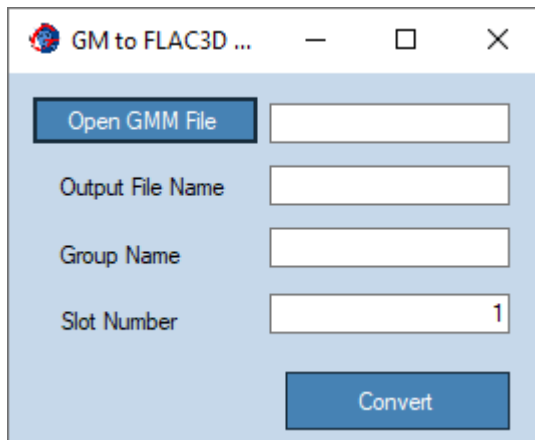

Figure 18: *Geo Meshing v4.3* to Flac3D® Geometry dialog window.
- **GM to Flac3D® Geometry:** Opens a dialog window (shown in Figure 18) for converting *Geo Meshing v4.3* meshes to Flac3d® geometry. The resulting file can be imported in Flac3D® using *Open Item/Geometric Data: Import* option.